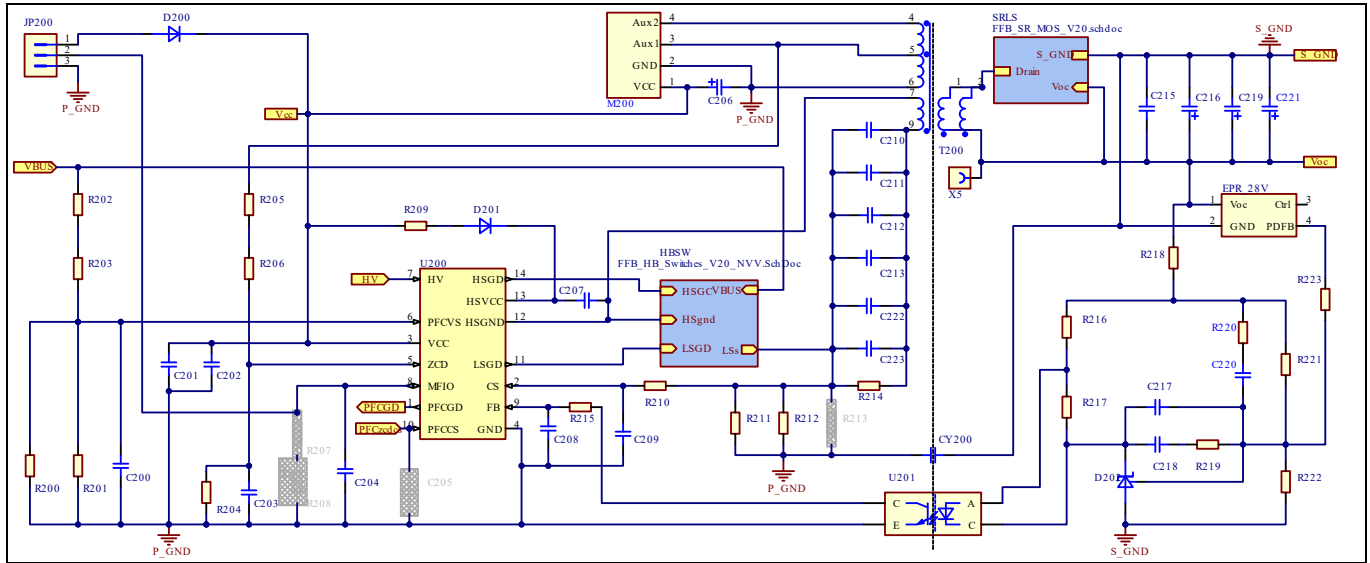
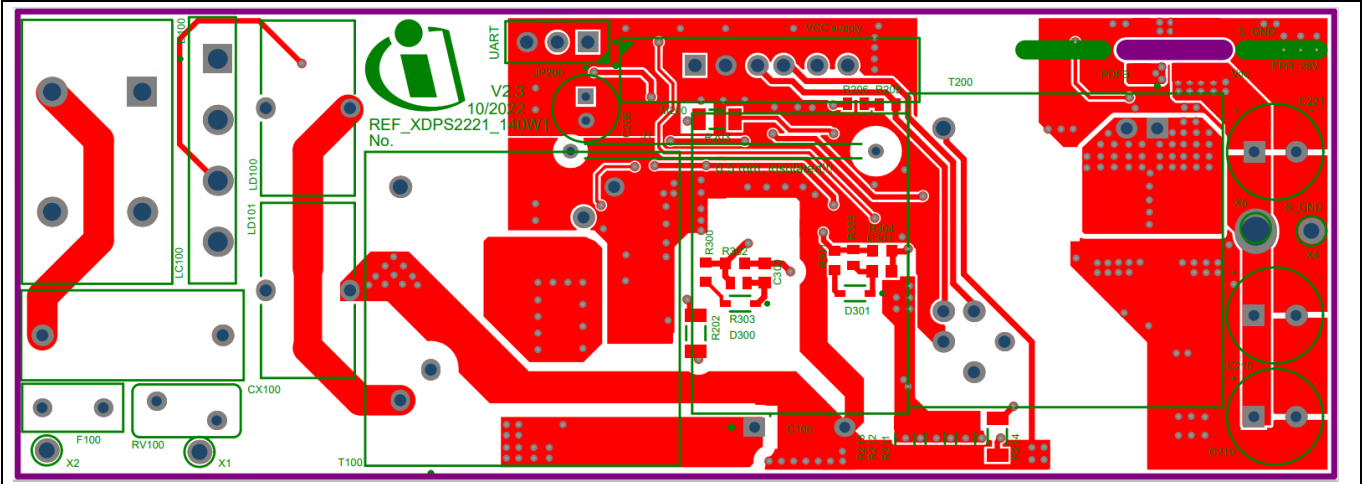
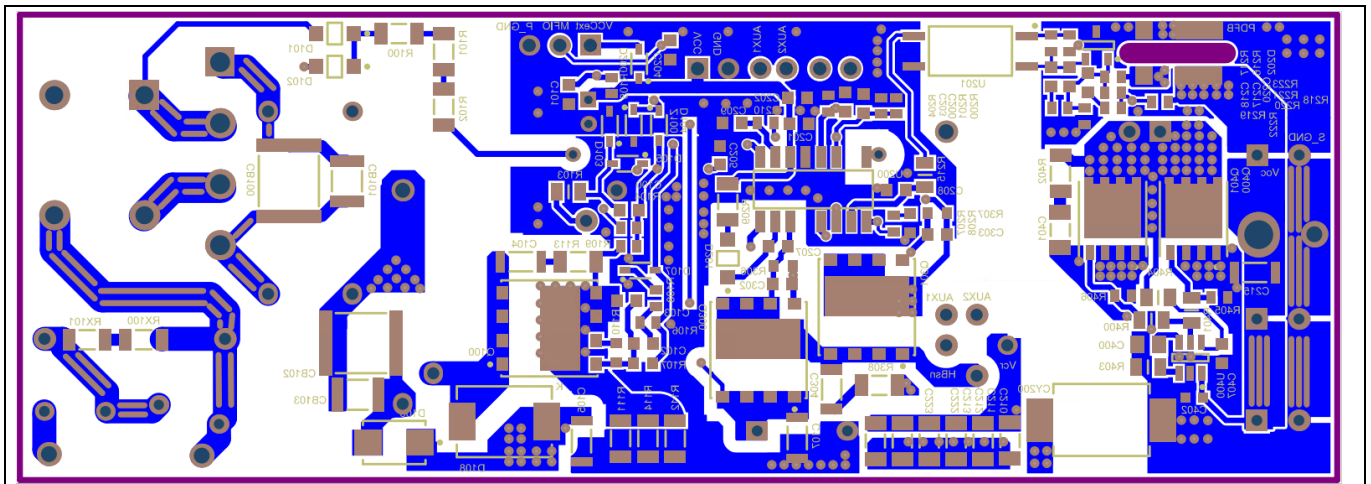

**Figure 5 PFC stage schematic**
Figure 9 Main board PCB: top side
Figure 10 Main board PCB: bottom side
The schematic and PCB layout of the main board are shown in Figure 5 to Figure 10. Not assembled parts are greyed-out in the schematics.
Figure 5 shows the power circuitry of the AC input and PFC stage, including the input protection and EMI filter (RV100, CX100, RX100, RX101, LC100, D100, CB100, CB191, LD100, LD101, CB102, and CB103), and the start-up cell external circuit (D101, D102, R100, R101, and R102). The PFC zero-crossing detection (ZCD) and current sensing (CS) signals are combined into a single signal,  $PFC_{zcdcs}$ , which is connected to IC pin PFCCS. The voltage at the PFC auxiliary winding, which is coupled to the PFC main inductance (T100) is processed by the devices R103, D103, D105, R104, C100, D104, Z100, C101, and R105 to generate the ZCD signal, where D103 is for the negative clamping, and the network D104, Z100, C101, and R105 limits the positive voltage of the ZCD signal. Per resistor R109, the ZCD signal is effectively de-coupled from the PFC CS resistors R111, R112, and R114, which provide the CS signal to the control IC. A CoolGaN™ device is used as the PFC main switch, Q100, and it is driven directly by the XDP™ XDPS2221 from the PFCGD pin with the external RC network (R107, R106, and C102).
To keep system costs low, two-layer PCBs are used for all boards. Figure 9 and Figure 10 show the PCB layout of the main board.